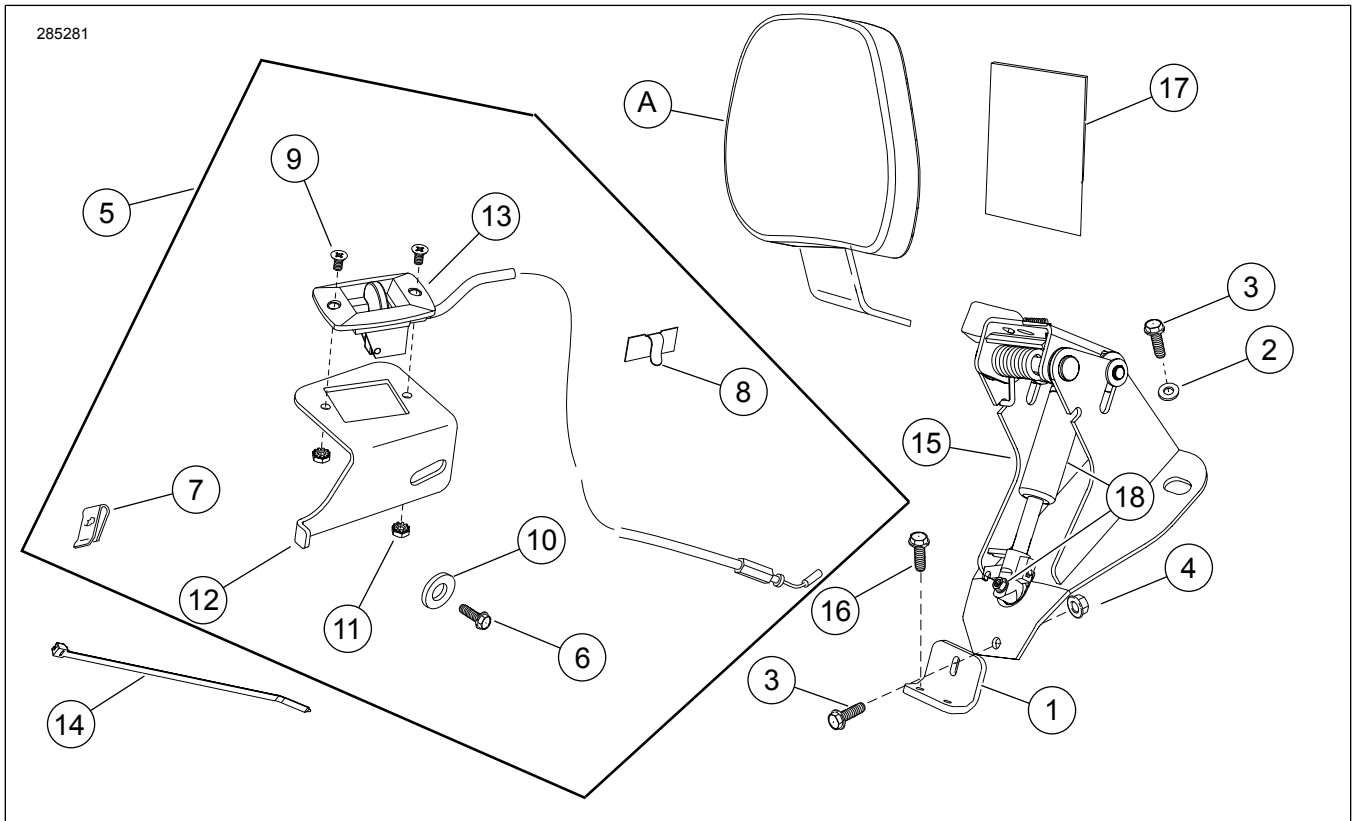

Figure 9. Service Parts: FL Adjustable Rider Backrest Mounting Hardware Kit
7. Figure 9 Mount actuator handle with cable (13) to actuator handle bracket (12) with screws (9) and locknuts (11).
- Figure 9 Obtain the adhesive-backed clip (8) from kit. Clean the flat area of the adjustment handle bracket approximately in the location where the spark plug wire stock clip was removed using isopropyl alcohol. Attach the clip to the bracket and route the spark plug wire and evaporator tube (if equipped) through the clip. Fold clip down to capture the wire and/or tube securely.
- Figure 9 Obtain seat protector (17).